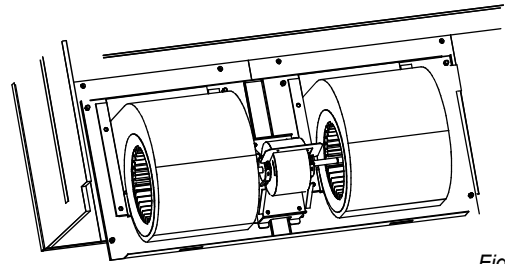

Fig.9-7
- 1) Lift the fan motor assembly; make the edges of fan motor assembly touch the guide rails. It needs to two persons. (Fig.9-7)